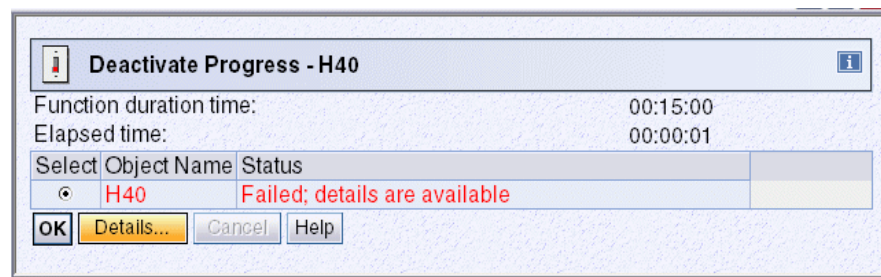

Figure 7-2 Deactivate Progress
4. However, the Deactivate Progress window returns a failed status. Details are available (Figure 7-2).